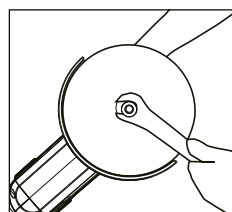

Fig 4
2. To tighten the outer flange, press the shaft lock firmly so that the spindle cannot revolve. Then, use the lock nut wrench to securely tighten it clockwise (Fig 4).